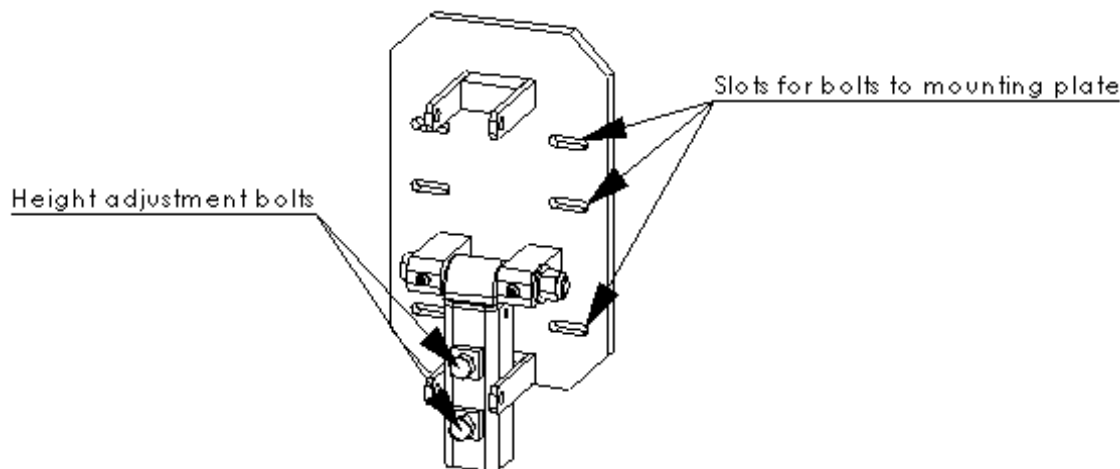

Figure 9 - Clapper Box
1. The clapper box assemblies hold the gauge and provide a pivot for the stored and deployed positions of the gauge. See Figure 9 below.
3. The clapper boxes can be adjusted vertically on the column of bolt holes previously described in Figure 9 above if the height is not suitable for the vehicle.